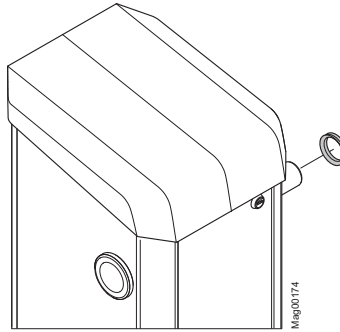

Fig. 35: Remove the v-ring
15. Slip the v-ring over the flange shaft. The sealing lip points towards the barrier housing. → See also page 77, Fig. 35.